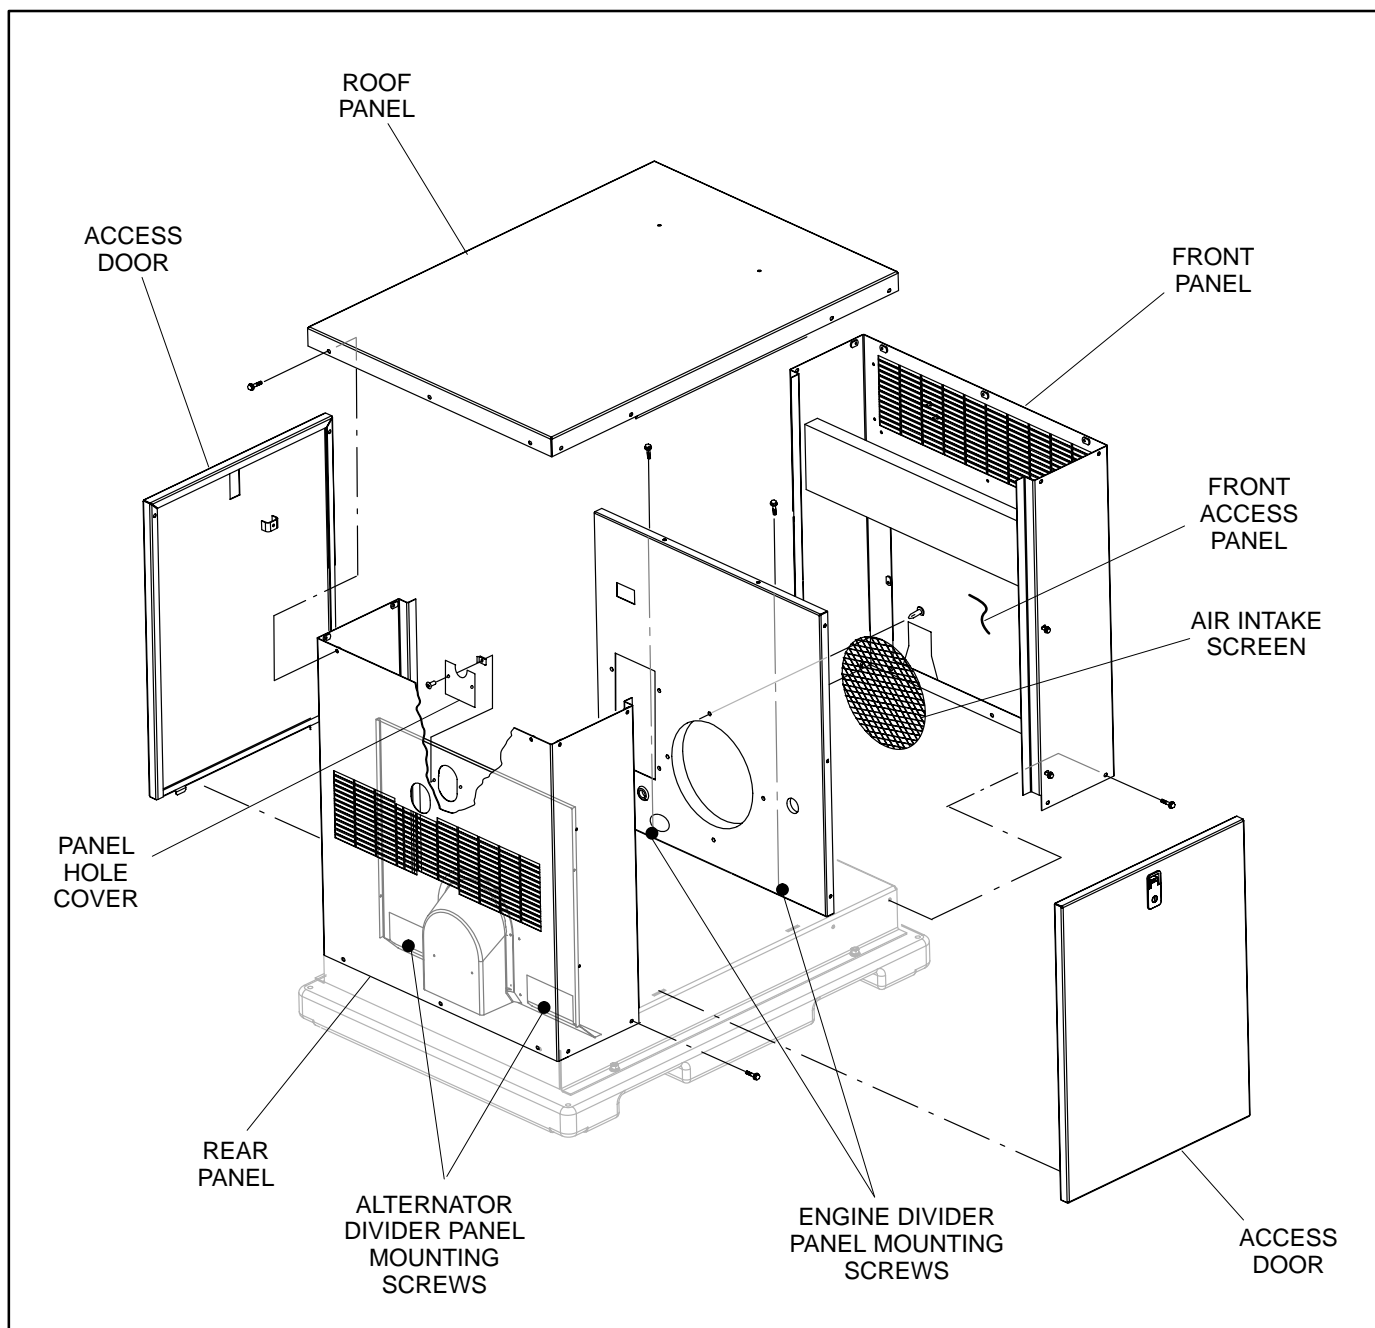

FIGURE 5-1. GENSET HOUSING
Before removing housing panels (Figure 5-1) to access the genset for maintenance or service, perform the following steps.
3. Remove the front access panel (Figure 5-1).
Note that the rear panel is also secured by two screws located at the base of the divider panel (see Figure 5-1). Also, a panel hole cover that is attached to the divider panel (located directly below the exhaust pipe) must be removed to allow the panel to clear the exhaust pipe during removal.
3. Remove the air intake screen from the engine divider panel (see Figure 5-1). To remove the four panel clips (screws) from air intake screen, turn out screw several turns and pull out panel clip. (Peel back foam insulation near air intake screen to expose panel clip screws.)
1. Remove the two screws that secure the panel hole cover that is mounted directly below the exhaust pipe and remove panel hole cover (see Figure 5-1).